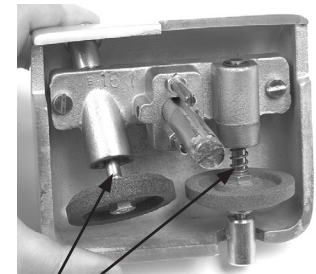

Figure 17-3
2. Put several drops of Globe oil on shaft behind each sharpening stone (Fig 17-3).